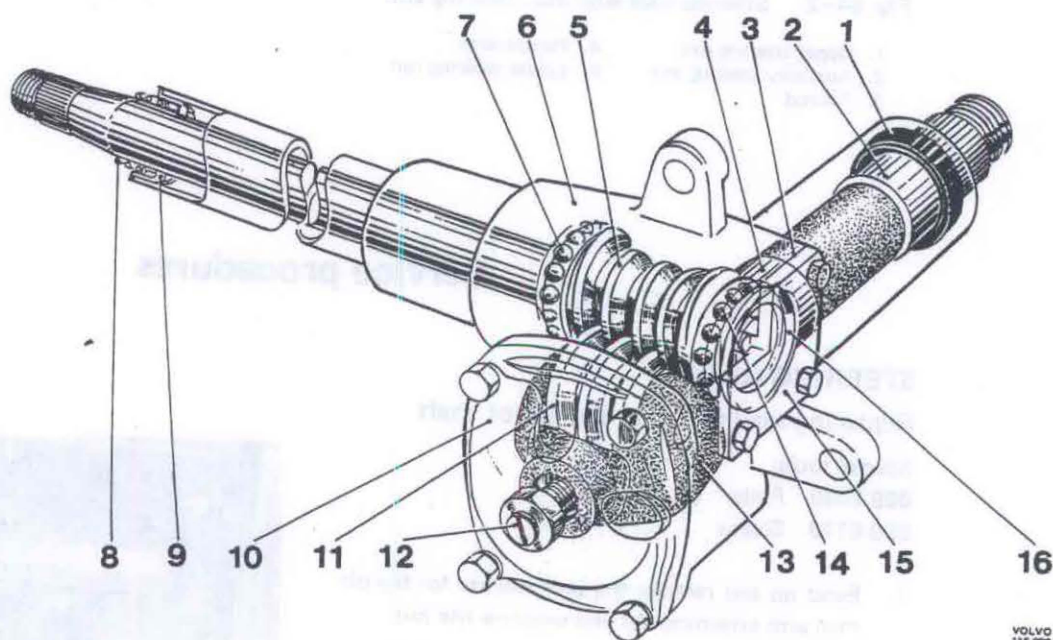

Fig. 64-1. Steering gear
The steering gear is of the worm and roller type and its design can be seen from Fig. 64-1. The worm (5) is journaled in two ball bearings (7 and 14) and its pre-load is adjusted by means of shims (3) placed between the lower cover (15) and housing (6).
3. Place the steering gear in the centre position. Unscrew the lock nut for the adjuster screw (12, Fig. 64-1) and the bolts for the upper cover (10).